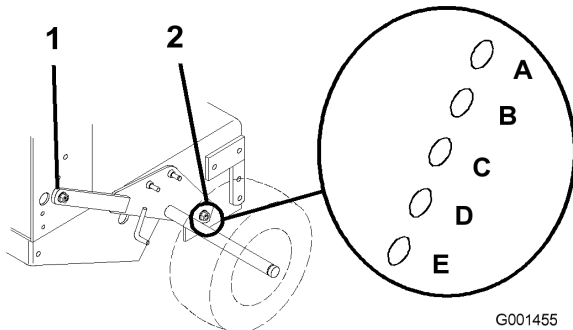

Figure 13
3. Loosen, but do not remove, the 2 axle pivot bolts and the 2 axle adjustment bolts (Figure 13).
4. Place a jack under the rear center of the engine frame. Raise the back end of the engine frame up enough to remove the front 2 axle adjustment bolts (Figure 13).
5. Raise or lower the engine frame with the jack so that you can install the front 2 axle adjustment bolts in the desired hole location (Figure 13).